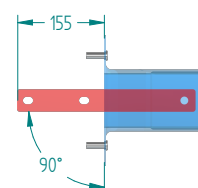

Fig 3
3. Insert Items C through the mounting point from inside the boot, securing Items B inside each chassis member using Items M. Fully tighten through the chassis opening, ensuring arm is square and in position. (See Fig 3).